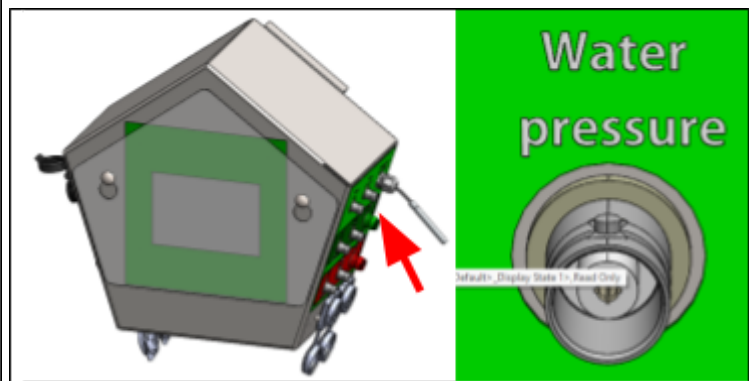

Figure 52.
- o Connect the pressure sensor cable to the "Water pressure" terminal on the control box (see Figure 52).